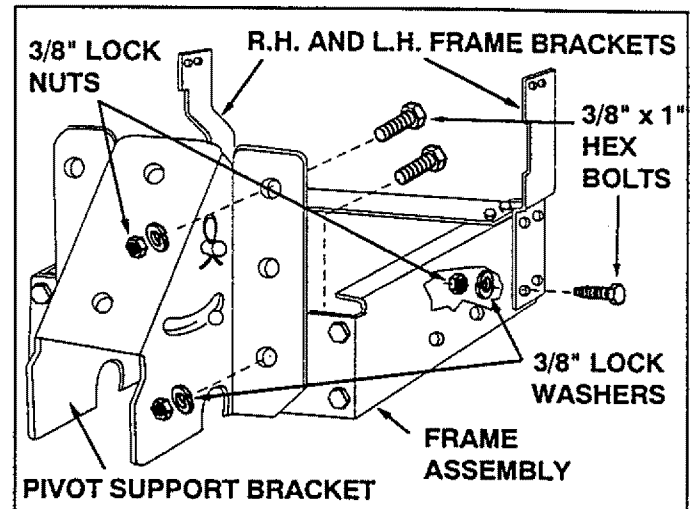

FIGURE 14
- Position the left hand frame bracket against the left side of the frame assembly as shown in figure 14, aligning the front two holes in the frame bracket with the rear two holes in the frame assembly. Fasten through the bottom hole only, using a 3/8" x 1" hex bolt, lockwasher and locknut. Repeat for right hand side. **Do not tighten.** See figure 14.